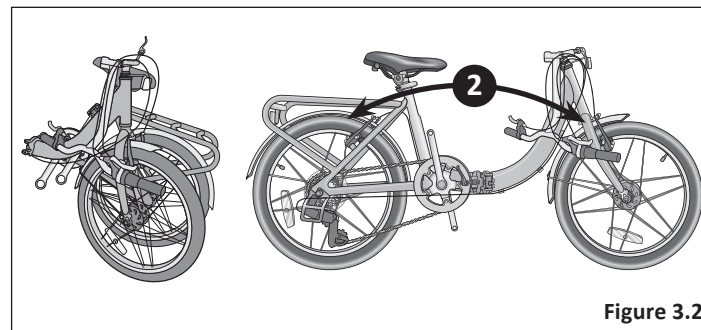

Figure 3.2
- 1 Begin by standing on the **chain side** of the bicycle. The chain and crank will be in front of you. **Figure 3.2**